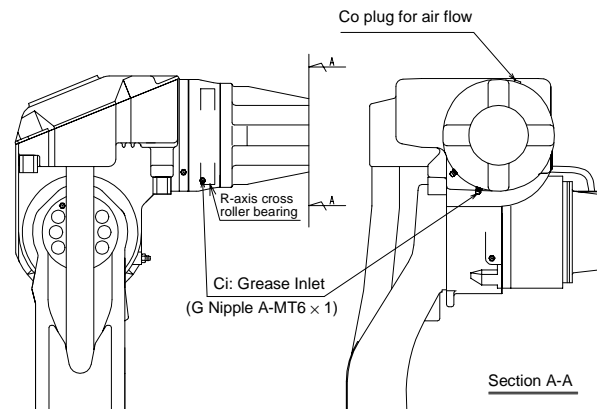

Fig. 32 R-Axis Cross Roller Bearing Diagram
2. Inject grease into the Ci grease inlet using a grease gun. (Refer to " Fig. 32 R-Axis Cross Roller Bearing Diagram ").